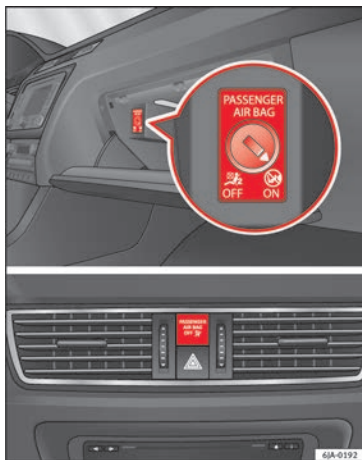

Fig. 81 Front passenger front airbag switch/warning lamp for disabling the front passenger airbag.
- The airbag is disabled, signalled with the warning lamp **OFF**  which lights up with the word **PASSENGER AIR BAG OFF**  placed in the centre part of the dash panel **>>> Fig. 81**
- the airbag is disabled, signalled with the warning lamp **OFF** , which lights up with the word **PASSENGER AIR BAG OFF** , placed in the centre part of the dash panel » Fig. 81 ③.
»» **Fig. 81.** About 3/4 of the key should enter, as far as it will go.